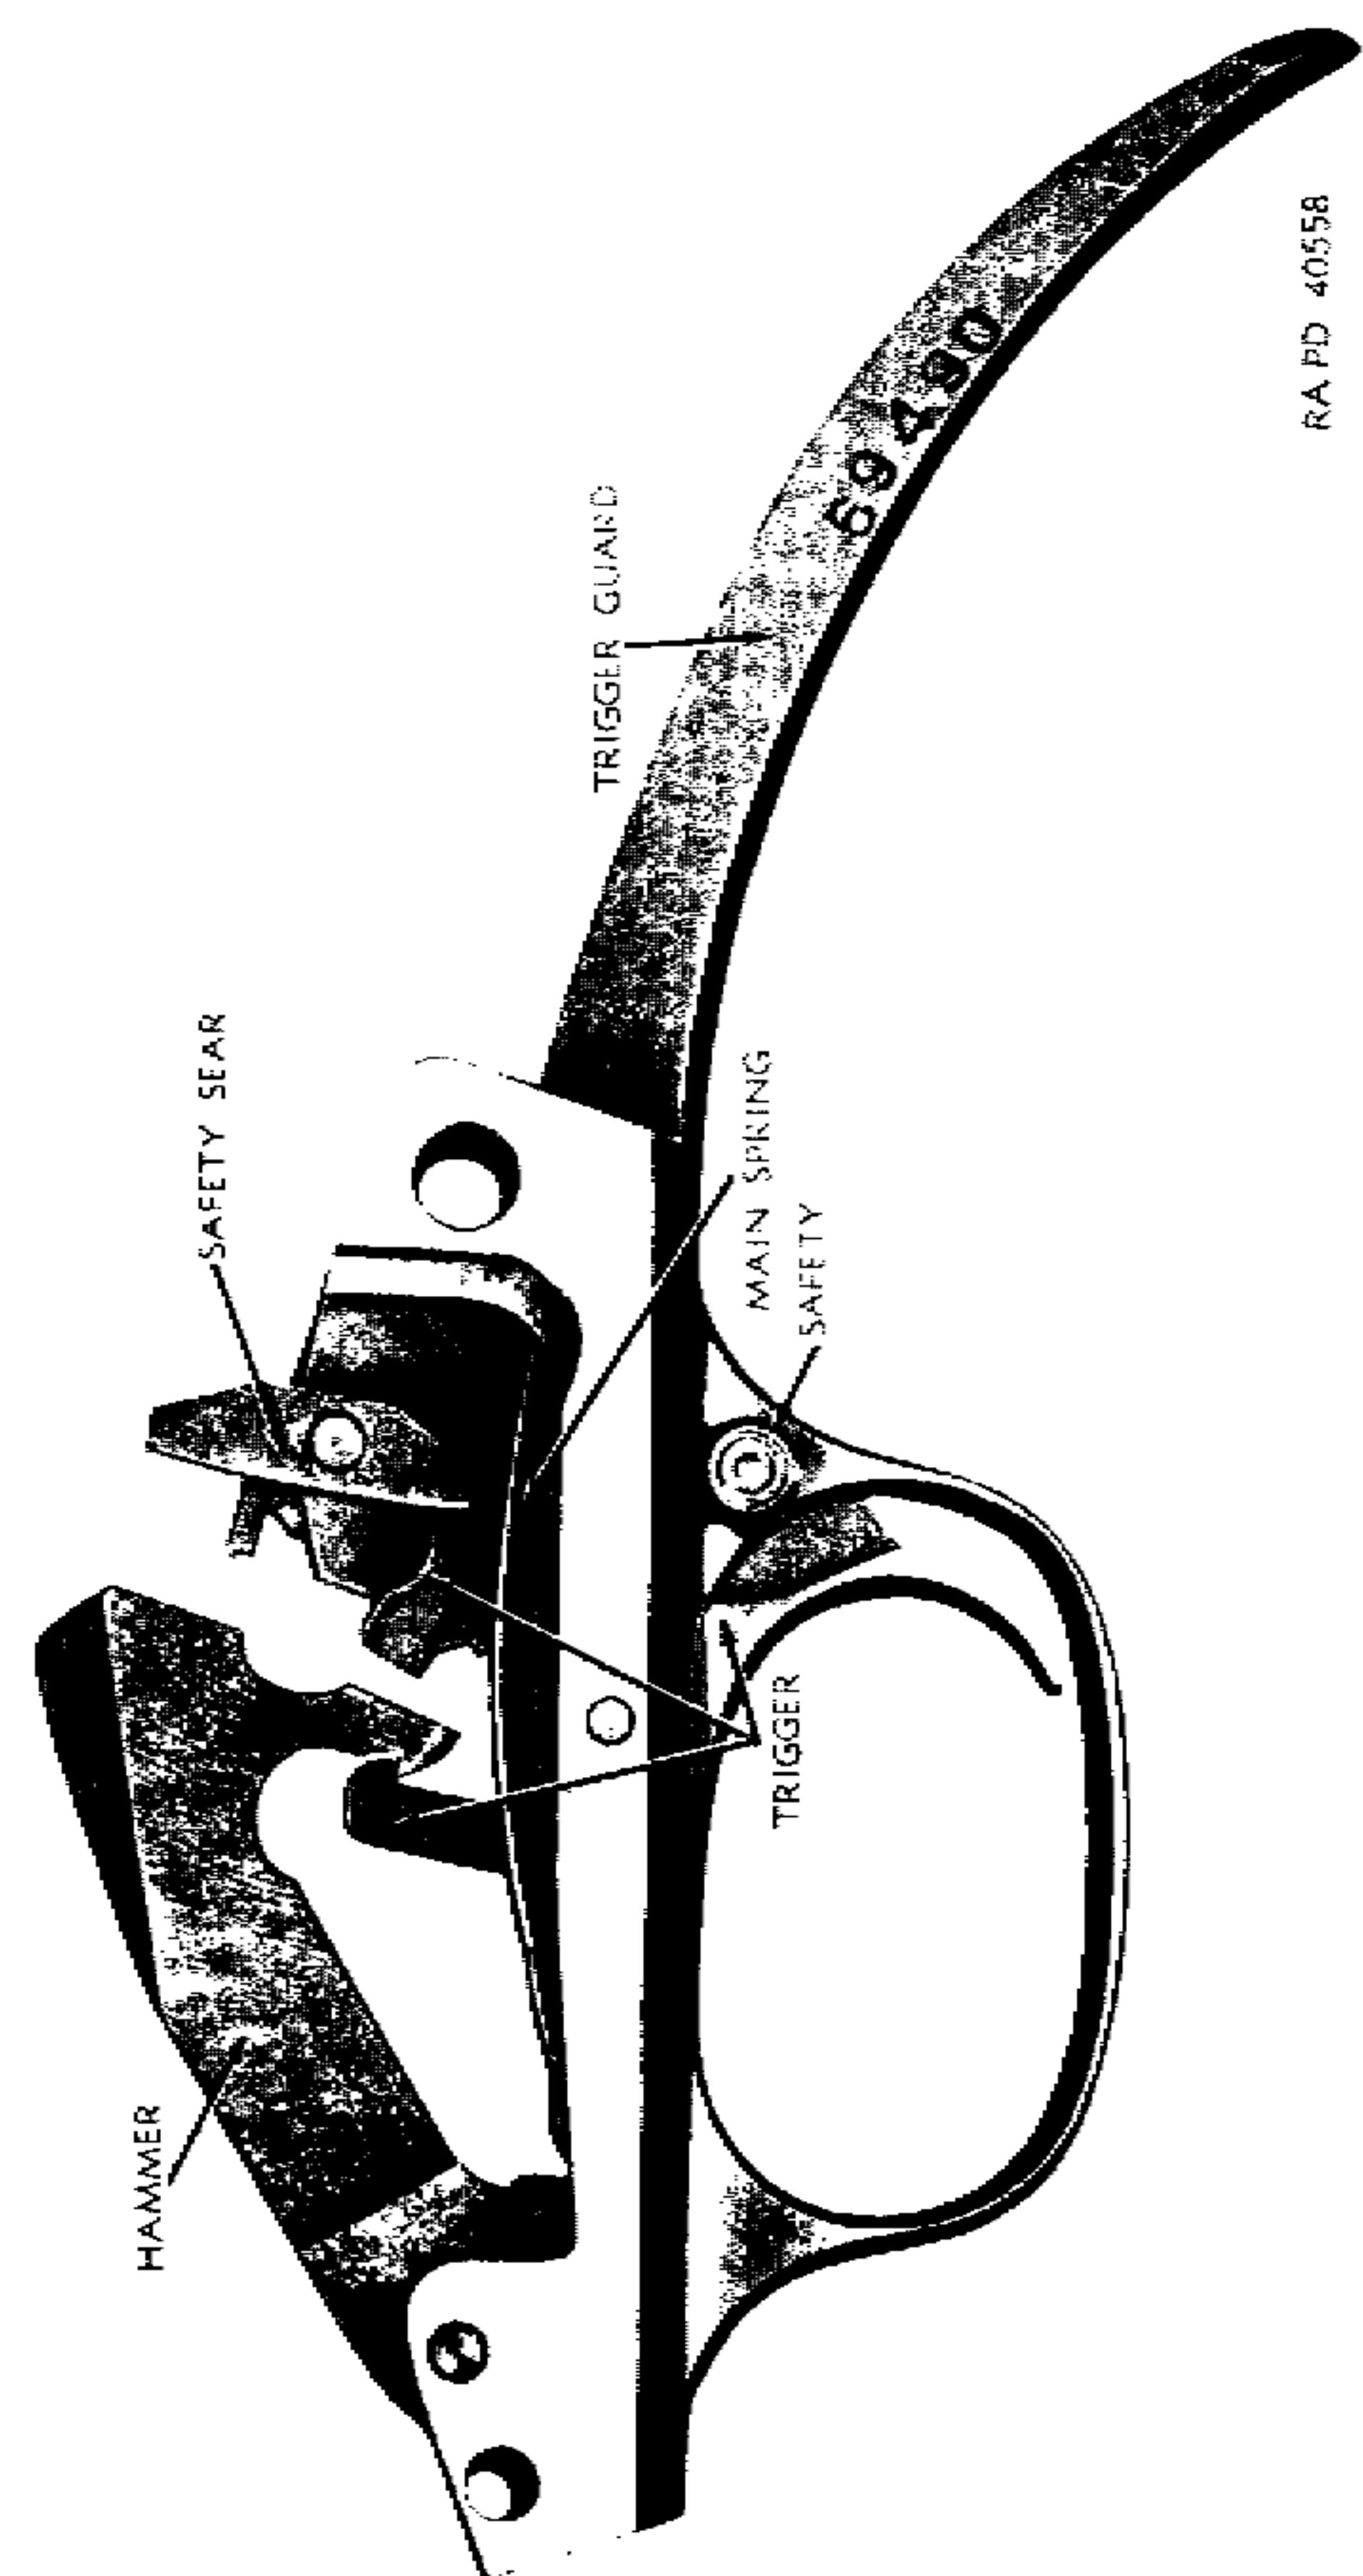

Figure 117—Trigger Guard Group—Left Side View—Savage Shotgun M720
(10) The trigger guard group (fig. 117) is composed of the hammer, trigger, safety sear, mainspring, and trigger safety together with their components. The hammer is pivoted in the forward end of the trigger guard and is functioned by the mainspring screwed to the tang of the trigger guard and bearing on a roller in the lower end of the hammer. The mainspring is of the leaf type and is slotted to allow the upper end of the trigger which acts as the sear to protrude through it to engage the hammer. A lug extends from the upper rear face of the hammer in which there are two notches, one facing forward and the other to the rear. The trigger is pivoted in the rear end of the trigger guard, the lower end extending downward into the guard bow. The upper end of the trigger is U-shaped, the upper ends of the U forming hooks facing towards each other. When in the cocked position, the notched hammer lug lies between these hooks and is held by one or the other as explained hereafter. This feature prevents the gun from firing automatically as the trigger must be released and again pulled before the gun will fire. The safety sear is pivoted on a lug on the trigger guard directly over the trigger and acts as a block to the trigger during the functioning of the operating mechanism. The safety sear is spring actuated by a spring follower seated in the lug. The trigger safety is in the form of a cylinder, positioned to the rear of the trigger and operating laterally in the trigger guard to block or free the trigger for pulling to fire the gun.
h. The hammer is cocked by the link, which straddles it, on the rearward movement of the bolt. The sear hooks on the trigger (fig. 117) engage with notches in the hammer to hold it in the cocked position, whether the trigger has been released between shots or not. The safety sear blocks the trigger preventing its being pulled until disengaged by the link, as the bolt reaches the locked position. Detailed explanation of the functioning of the trigger is as follows:
(1) The upper part of the trigger is shaped like a U with two sear hooks facing each other. A lug projecting from the rear face of the hammer is notched on both sides to engage with the sear hooks on the trigger. The notched lug of the hammer rotates down between these hooks when cammed back by the link on the rearward movement of the bolt. If the trigger is in the forward (released) position, the forward hook engages with the forward notch in the hammer. If the trigger is in the rearward (pulled) position, the rear hook engages with the rear notch in the hammer. Thus the hammer is caught and held in the cocked position whether the trigger has been released or not. If the trigger has been held in the pulled position and the hammer caught by the rear hook, the trigger must be released and again pulled before the gun can be